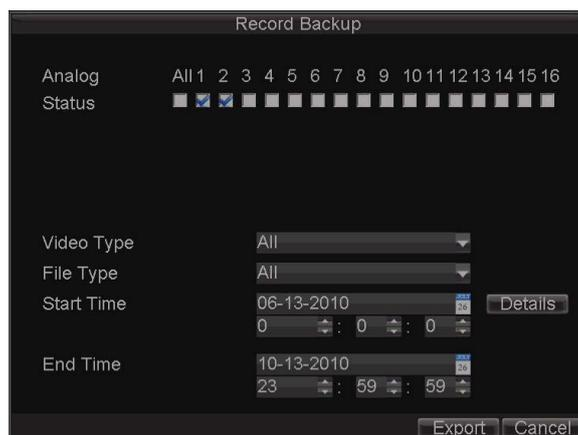

Figure 1. Export Video
1. Click Menu > Video Export to enter the Export Video menu, shown in Figure 1.